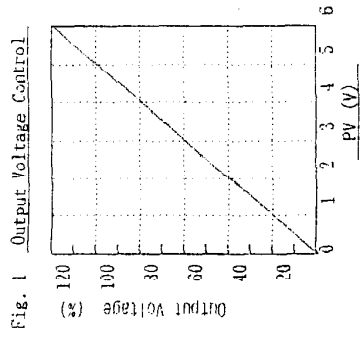
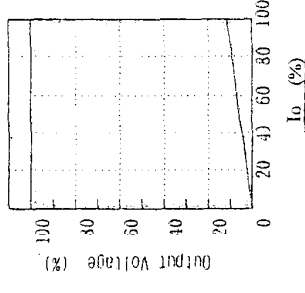

Fig. 1 Output Voltage Control
Fig. 2 Derating Curve
- * 4 : By means of V.adj. on front panel. Also by PV controlling output voltage is adjustable from 0V to the maximum output voltage (Rating x 120%). Refer to Fig. 1. Ratings : Refer to Fig. 2.